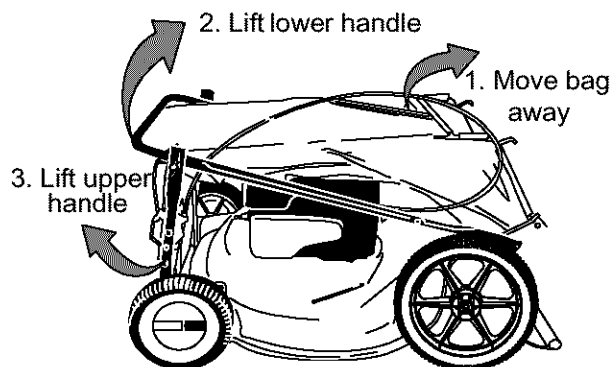
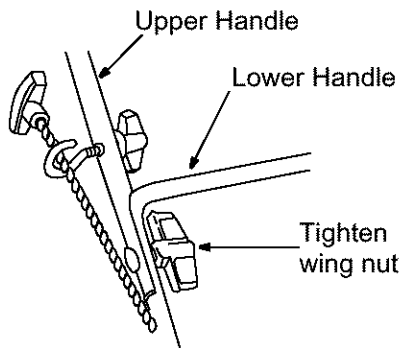

Figure 3
Figure 4
- Remove grass bag from the unit and set it out of the way. See Figure 3 (step 1).
- Raise the lower handle in the direction shown in Figure 3 (step 2) till it snaps into place.
- Raise the upper handle in the direction shown in Figure 3 (step 3). Tighten the wing nuts which are already on the handle. See Figure 4.